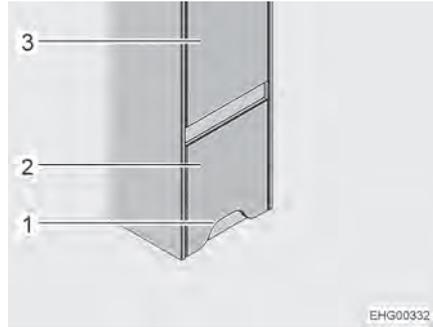
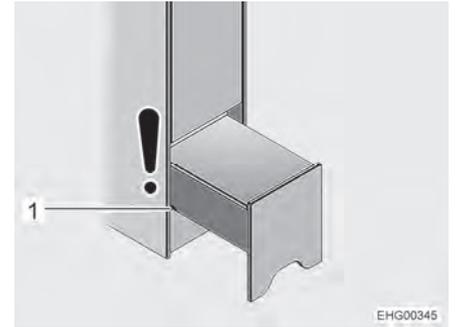

Fig. 81 Access assistance (closed)
Fig. 82 Access assistance (night position)
**Position** The access assistance has been installed on the right side of vehicle, underneath the wardrobe (Fig. 81,3) in front of the rear bed.
- ▷ The toilet compartment door is opposite to the access assistance. As long as the access assistance has only been pulled out partially ("night position", see Fig. 82), it is still possible to open the toilet door. If the access assistance has been entirely pulled out to obtain access to the storage compartment, it is no longer possible to fully open the toilet compartment door.
- Grab the access assistance (Fig. 81,2) by the cut-out (Fig. 81,1), lift it slightly and pull it out up to the first groove (Fig. 82,1) (night position).